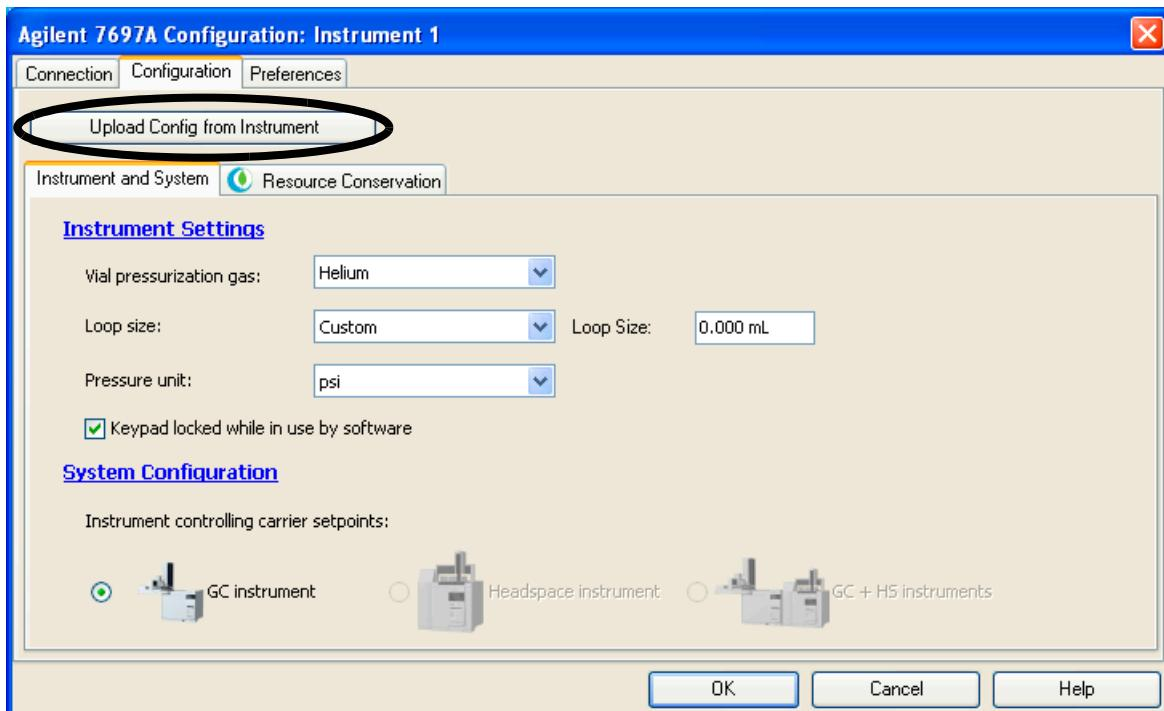

Figure 9 Setting instrument and system information
- 3 Select **Configuration > Instrument and System** (Figure 9) to configure the instrument settings and to select your desired system carrier gas configuration.